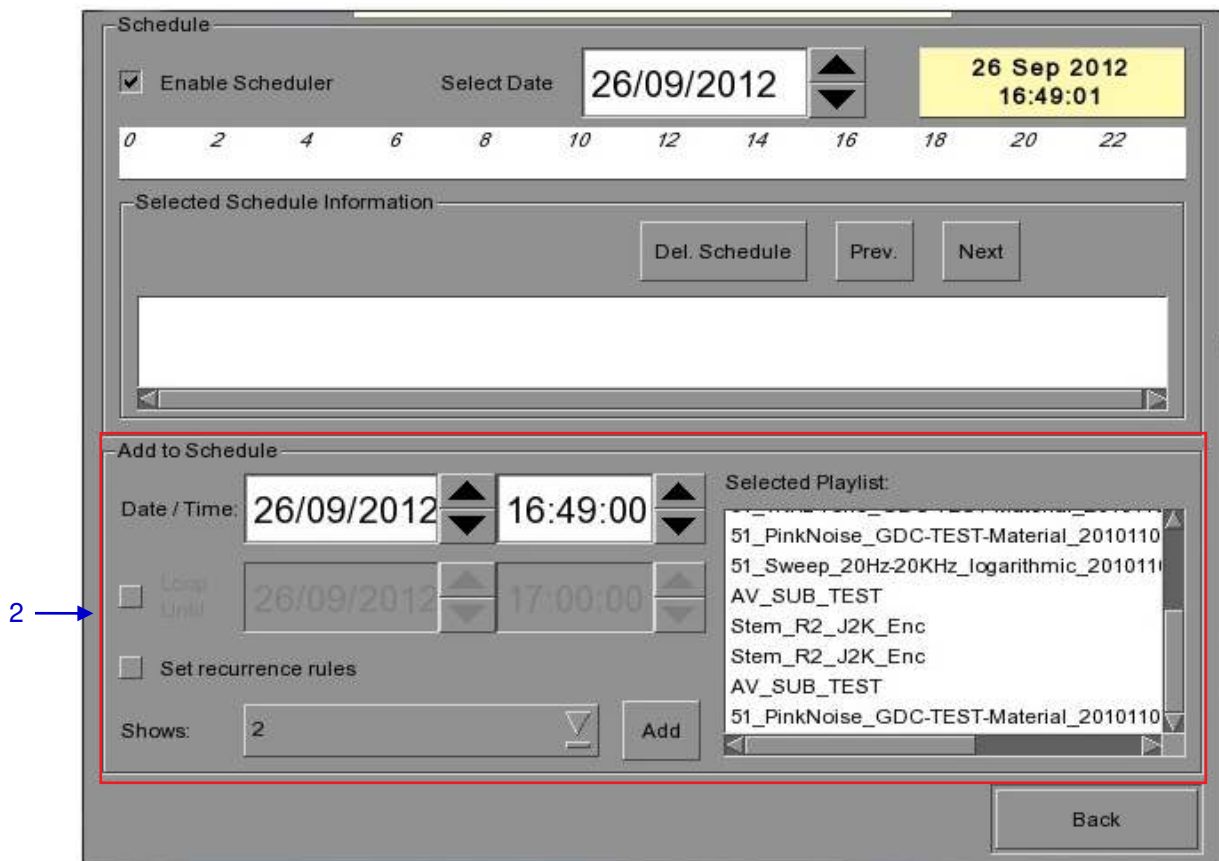

Figure 43: Scheduler
- 1 On the SMS Interface, press Scheduler. A new window opens as seen in Figure 43 .